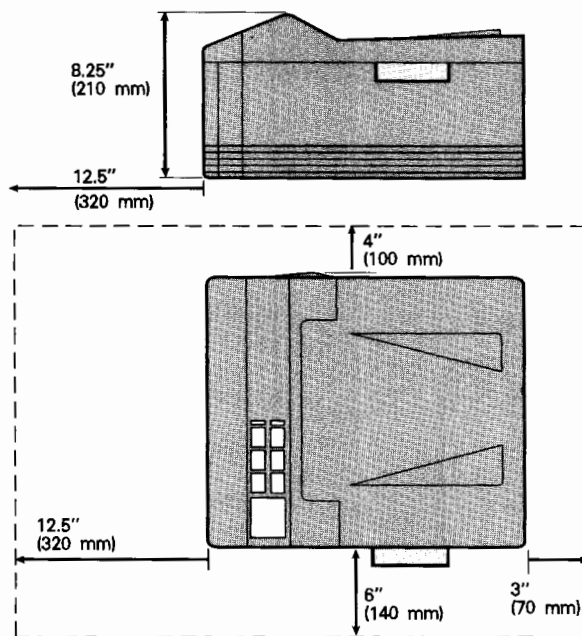

Figure C-1. HP LaserJet IIPplus Printer Space Requirements
- Install your printer with sufficient clearance from walls or other objects. There must be enough space around the printer for proper access and operation of the printer (see figure C-1).